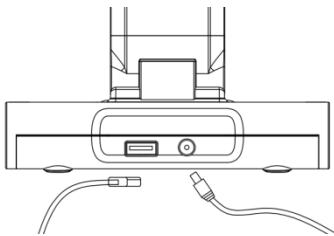

Fig. 1
1. The DC male interface at the end of the adapter line is inserted into the DC female interface (specified adapter) at the rear of the lamp body, as shown in Fig. 1;
2. USB interface is available for external devices' power supply (only for output of 5V / 1A) as shown in Fig. 1;